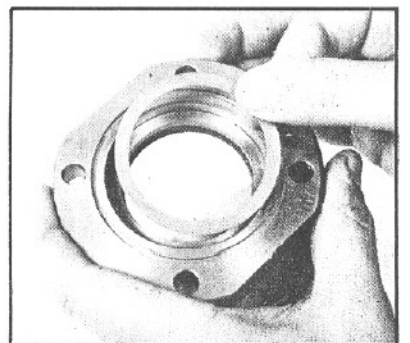

Figure 141
40. Place the trunnion cover (26) exterior face down on a bench and install the new Teflon back-up washer (24). (FIG. 141).